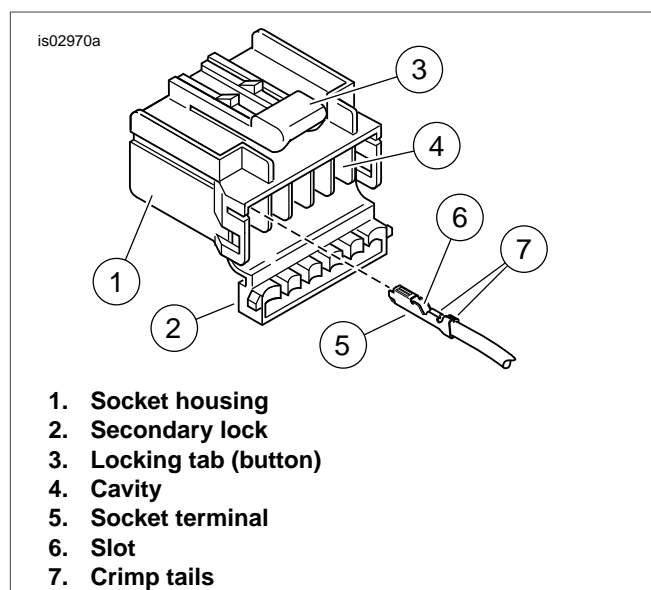

Figure 2. Socket Terminal Installation
- a. See Figure 2. On the secondary lock (2) side of the socket housing (1), position the socket terminal (5) with the slot (6) and crimp tails (7) facing up (in the same direction as the button (3) on the top of the socket housing).
- b. Insert the terminal into the correct cavity 1, 2, 3 or 4 (4) until it snaps into place with an audible "click".